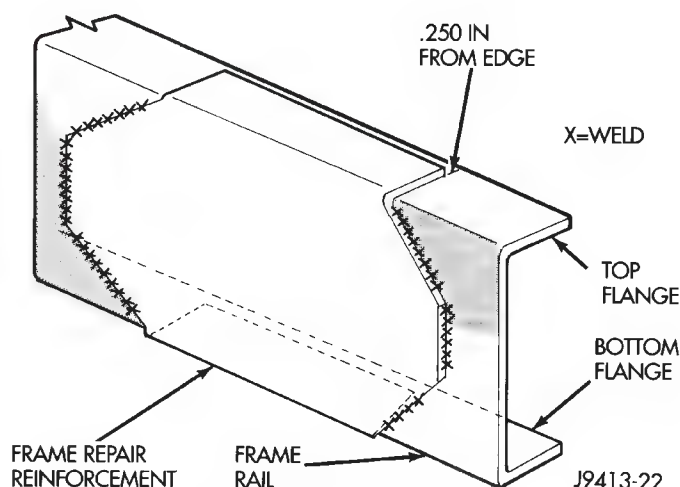

Fig. 4 Frame Reinforcement
- (1) Drill a hole at each end of the crack with a 3 mm (0.125 in.) diameter drill bit.
- (2) Using a suitable die grinder with 3 inch cut off wheel, V-groove the crack to allow 100% weld penetration.
- (3) Weld the crack.
- (4) If necessary when a side rail is repaired, grind the weld smooth and install a reinforcement channel (Fig. 4) over the repaired area.
If a reinforcement channel is required, the top and bottom flanges should be 0.250 inches narrower than the side rail flanges. Weld only in the areas indicated (Fig. 4).